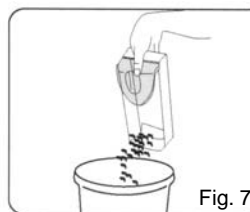

Fig. 7
2. Empty dust container contents. (Fig. 7) If desired- you may rinse with water to clean the dust container – but **dry thoroughly** before replacing on the sweeper.